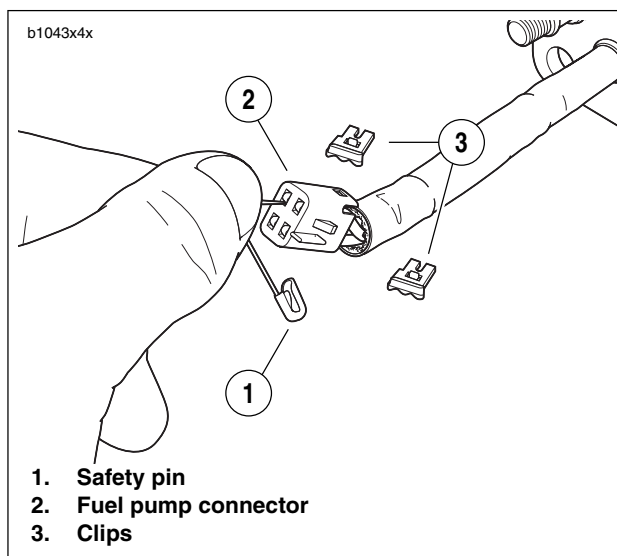

Figure 4-92. Fuel Pump Connector Disassembly
- a. See Figure 4-92. Remove connector clips (3).
- b. Insert push pin/safety pin (1), into connector as shown.